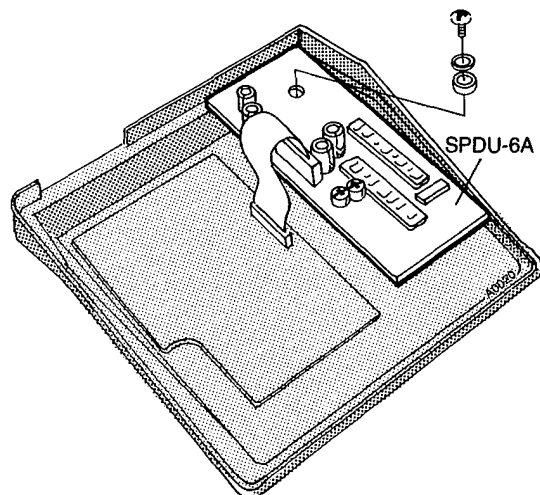

Figure 3 INSTALLING SPDU-6A PCB, EK-616
- *Insert the SPDU-6A PCB ( Figure 3 ).*